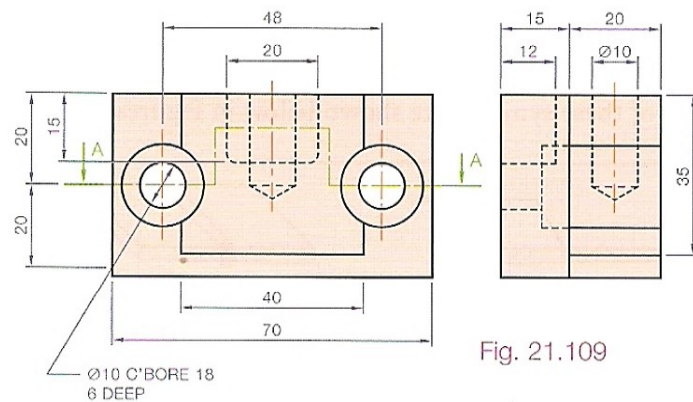

Fig. 21.109
- Draw the given elevations of the machined block as shown in Fig. 21.109.